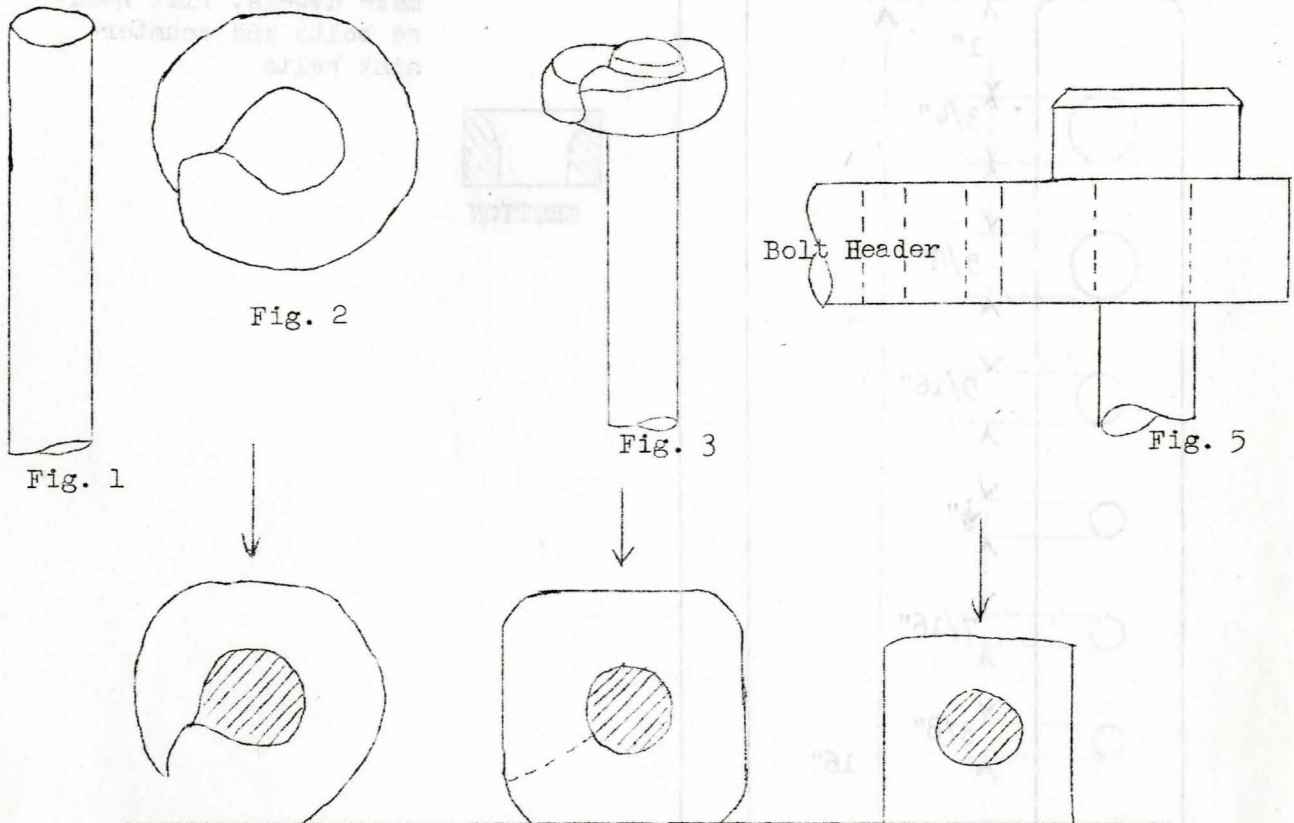

FIGURE 4.
STEP 3 - Put on an anvil and hammer into shapes shown in Figure 4. This must be done at welding heat.